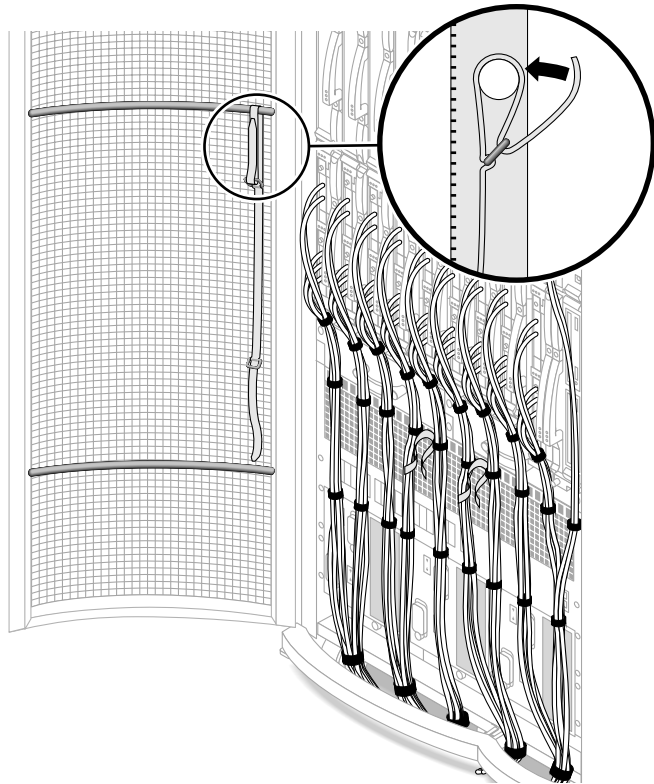

FIGURE 9 Rear Door Maintenance Strap
1. **Attach the 17.0 in. (43.2 cm) end of the 51.0 in. (129.5 cm) green buckle strap (No. 2) to the top crossbar on the hinged side of the door (FIGURE 9).**